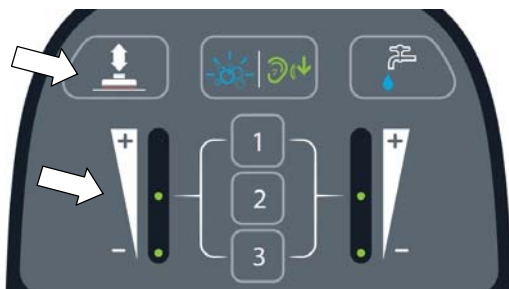

FIG. 38
2. Press the down pressure button to increase or decrease the down pressure (Figure 38). The down pressure indicator will display the pressure setting. One LED = Low pressure, two LED's = Medium pressure, three LED's = High pressure.